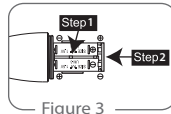

Figure 3
2. Insert two 1.5V batteries according to the correct polarity (Step 1 of Figure 3) and return the battery tray back to housing (Step 2 of Figure 3).